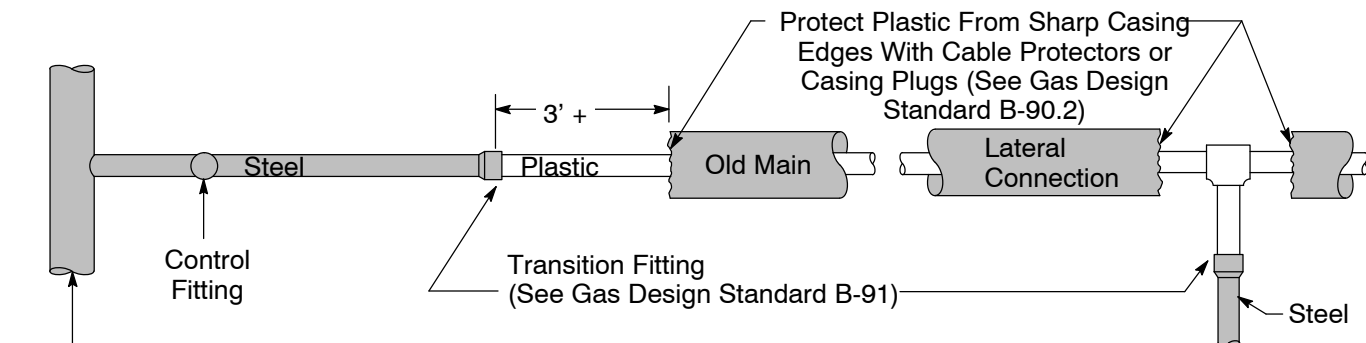

Figure 5
- f. Plug the space between the plastic and the casing pipe (see Figure 5, "Tie-In to Steel") with casing plugs or cable protectors (see Gas Design Standard A-70, "Casings for Highway and Railroad Crossings" and Gas Design Standard A-73, "Casing Insulator and End Seals Selection Chart"), duct seal, or other suitable means not detrimental to PE pipe. See Gas Design Standard A-75 for the plastic casing/sleeve sealing requirements.